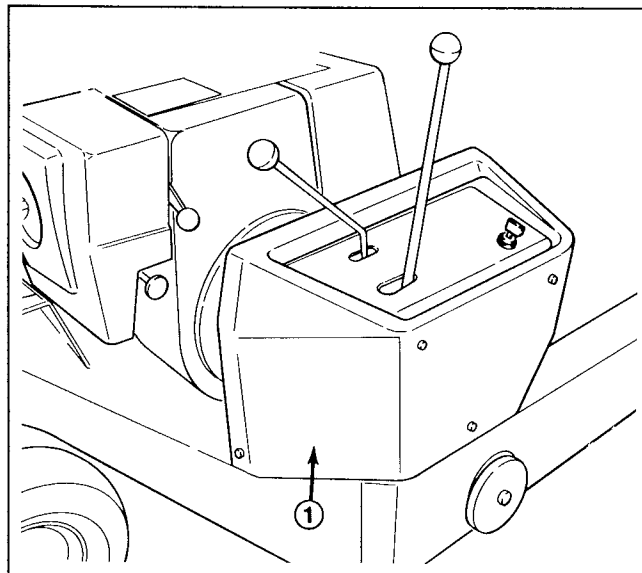

Figure 52
1. Remove control panel cover (Fig. 52).
Note: Make sure there is no tension on return spring when rod is in the disengaged (down) position. Loosen spring bracket capscrew and rotate bracket in or out until spring tension is relieved on spring. Tighten capscrew. Spring is to be hooked on latch from inside out as shown in Fig. 52.